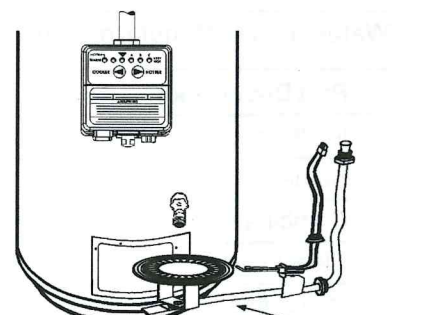

FIGURE 4.
6. Remove the burner assembly from the water heater, see Figure 4.